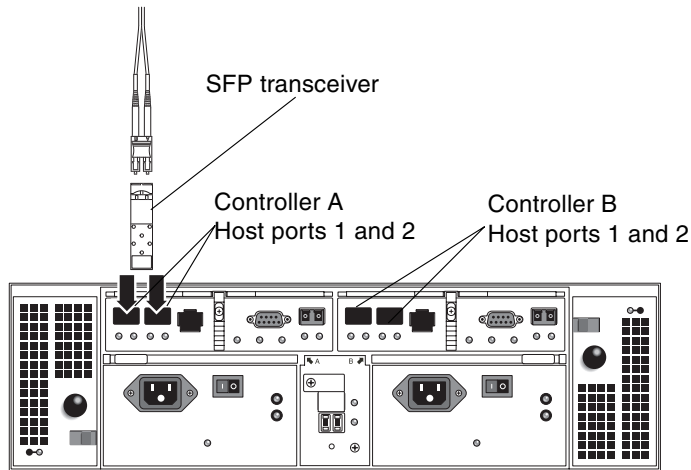

FIGURE 4-2 Host Connections
1. Locate the host ports (SFP transceivers) at the back of the controller tray (FIGURE 4-2).
1. Locate the host ports at the back of the controller tray (FIGURE 4-2).